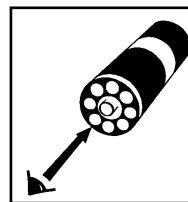

Figure 3
9. Obtain a test result by placing the ampoule, flat end first, into the comparator. Hold the comparator up toward a source of light and view from the bottom. Rotate the comparator until the best color match is found (fig. 3)